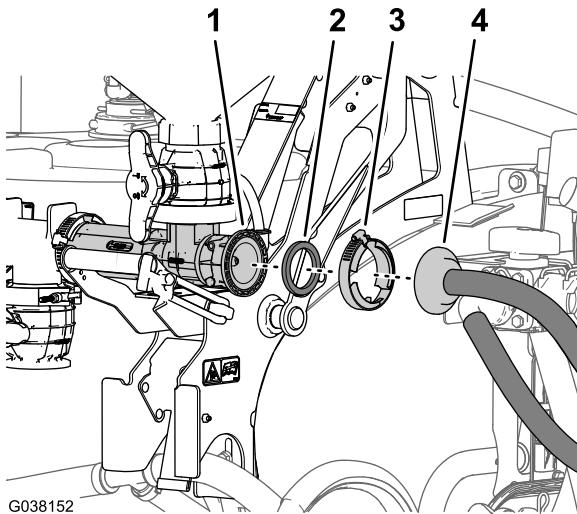

Figure 9
1. Remove the flange clamp that secures the flanged hose-barb of the supply hose to the inlet flange of the eductor (Figure 9).
2. Remove the flanged hose barb and gasket from the eductor (Figure 9).